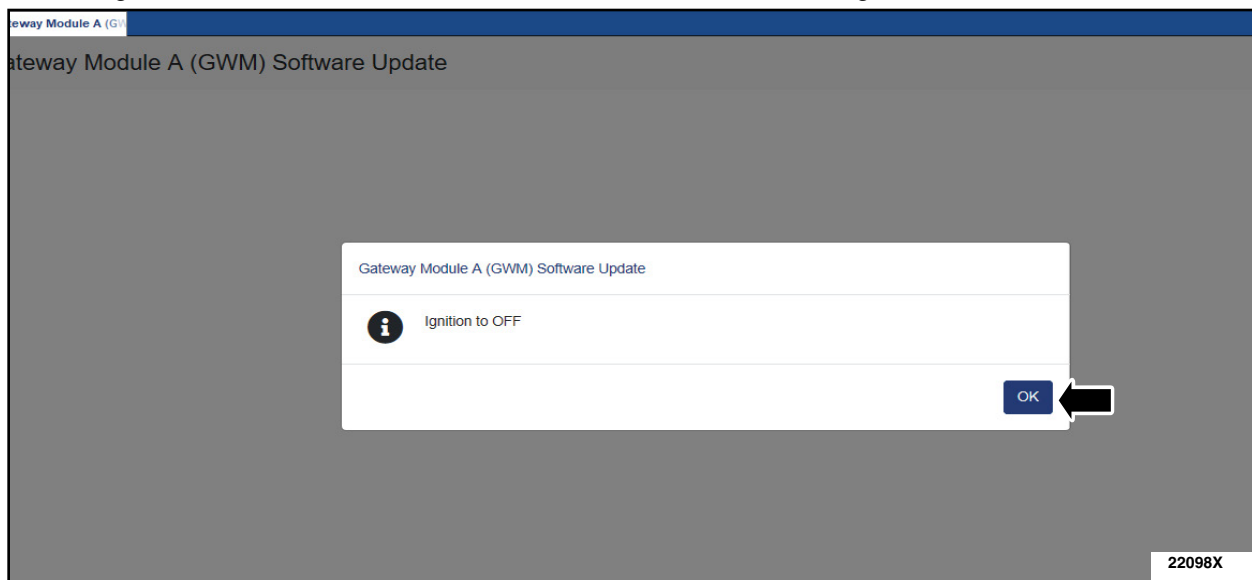

FIGURE 24
26. Turn ignition to off and click the OK icon on the FDRS screen. See Figure 24.